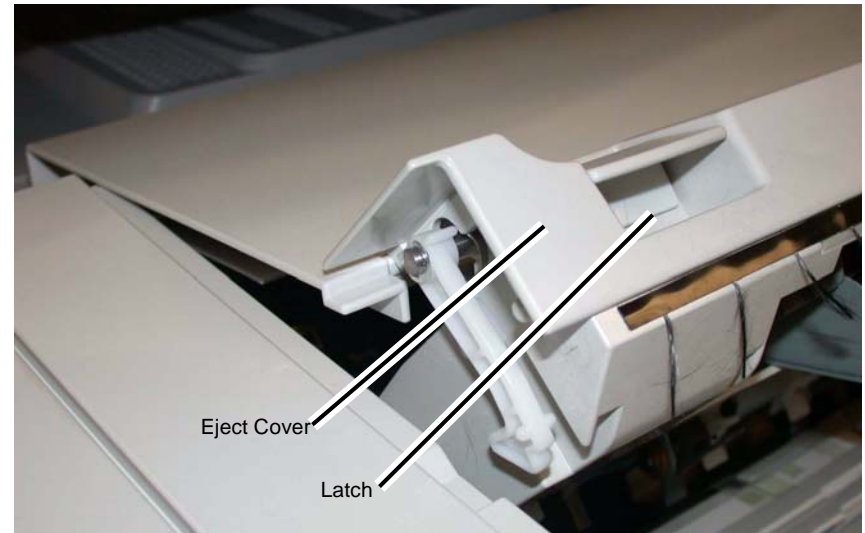

Figure 3 Inserting the Latch through the hole in the Cover
2. Position the Eject Cover so that the Latch is inserted in the hole (Figure 3).